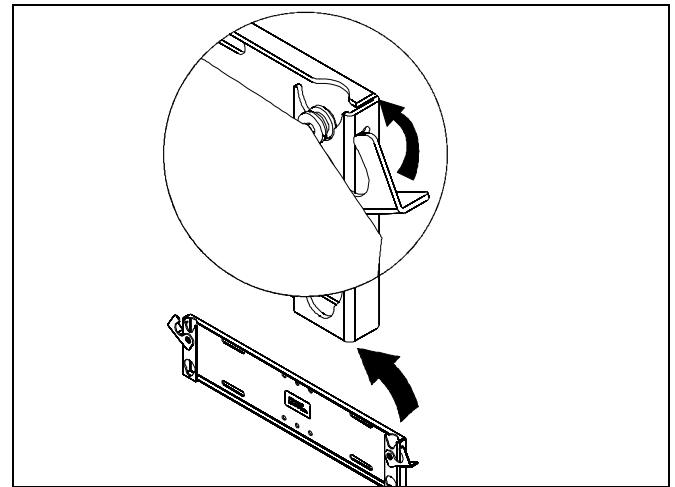

Figure 6
3. Close latching flag to secure speaker to speaker bracket. (See Figure 6)